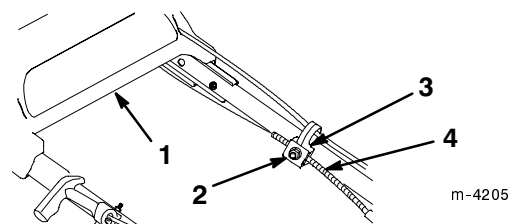

Figure 21
3. Loosen the cable support nut (Fig. 21).
6. Pull the cable jacket down (toward the lawn mower) to remove all the slack in the cable (Fig. 21).
7. While holding the cable jacket in place, release the drive bracket and tighten the nut on the cable support (Fig. 21).